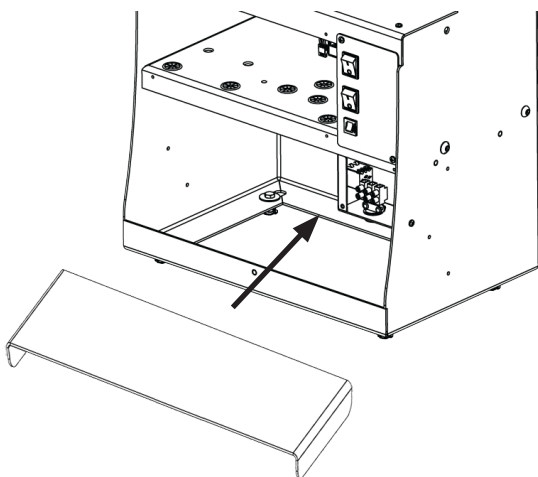

Figure 38. Install Extended Battery Tray
6. Install the extended battery tray at the back of the conduit cut out (Figure 38).